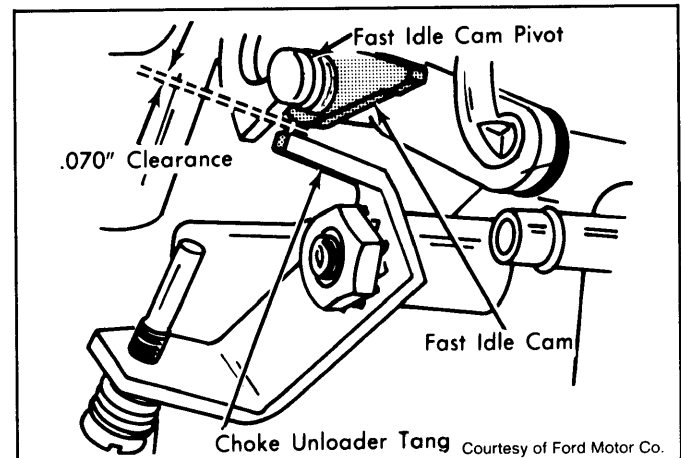

Fig. 8: Unloader-to-Fast Idle Cam Clearance
3) Open throttle until unloader tang is directly under fast idle cam pivot. Ensure there is .070" clearance between unloader tang and fast idle cam. See Fig. 8.